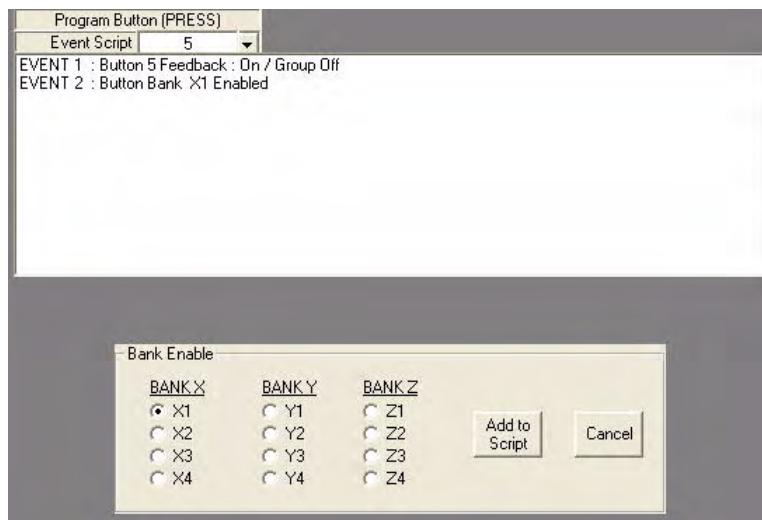

FIG. 68 Button 5 script, with Enable X1 Bank selected
- 3.** Write a script for Button 5 and include Bank Enable **X1** (FIG. 68).